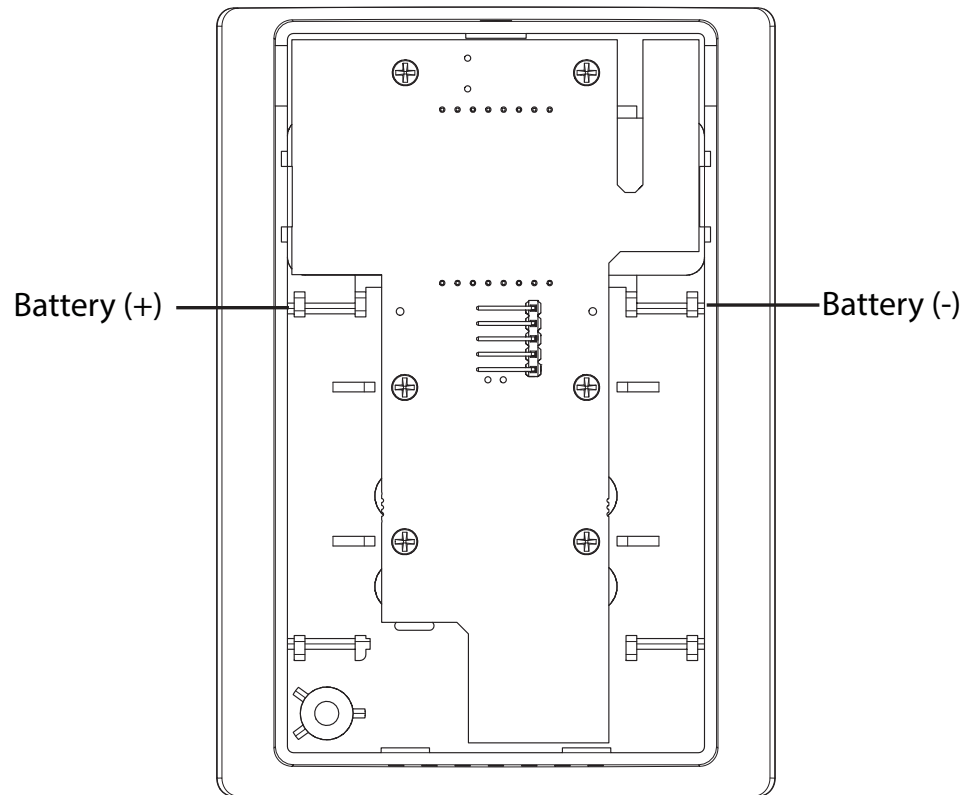

Figure 3 Battery connections
3. Connect the new batteries to the connectors shown in Figure 3. Pay attention to polarity.